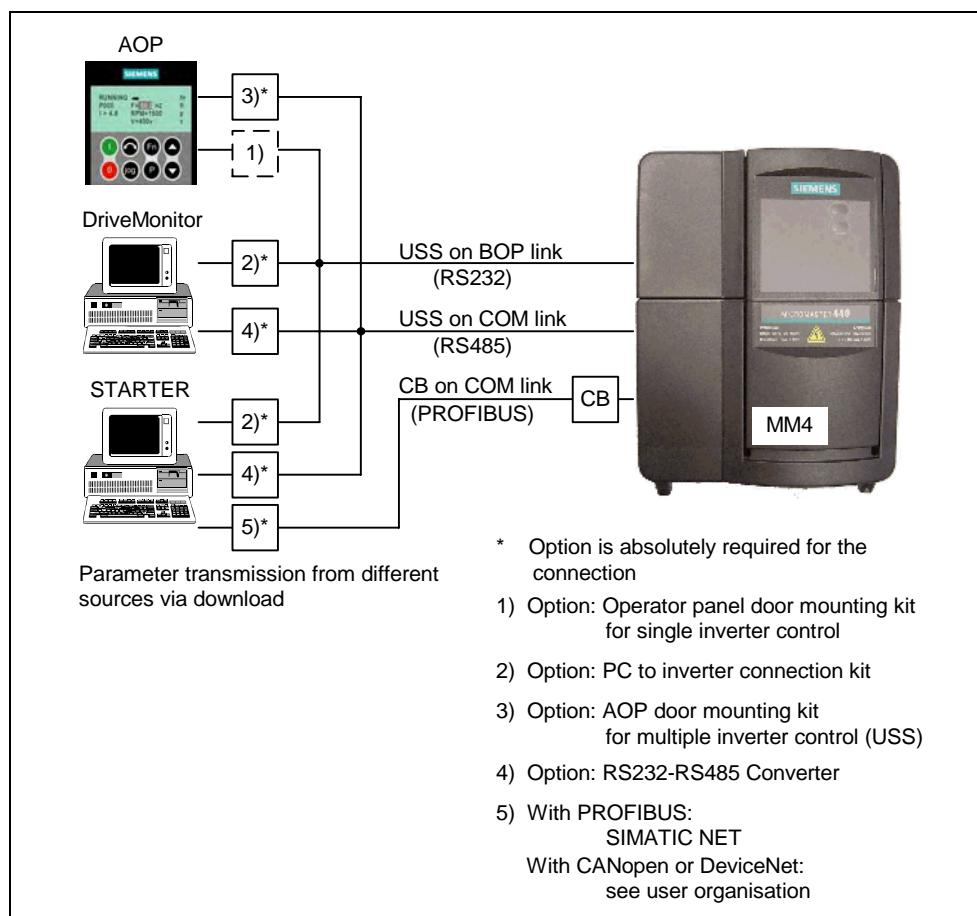

Fig. 3-28 Uread / download using AOP and PC Tools
- (please refer to Fig. 3-28).